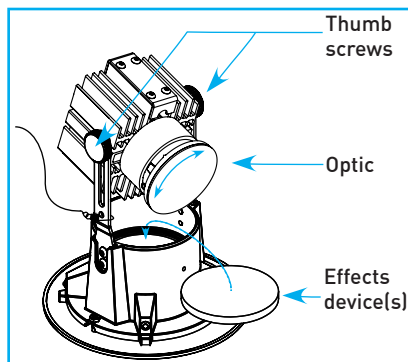

Fig.36
C. Detach LED Engine assembly by loosening and removing two knurled knob thumb screws. Save thumb screws **"Fig.36"**.
To change effects device, loosen thumb screws of fixture, then slide LED engine assembly up and swing out for access **"Fig.36"**.
B. To change optic, carefully grab and twist counter-clockwise to remove and clockwise to secure. Ensure that both feet of optic properly engage LED base **"Fig.36"**.